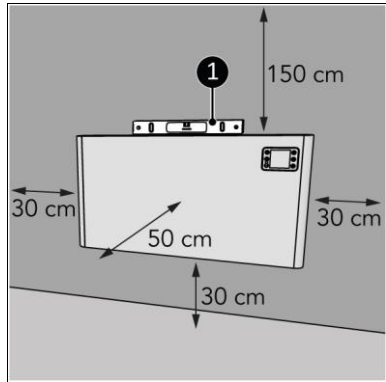

Figure 9
1. Place the device on a vertical and solid surface. Use a spirit level when placing the device (Figure 9, pos. 1).
2. Place the device with a minimum distance (Figure 9) of: